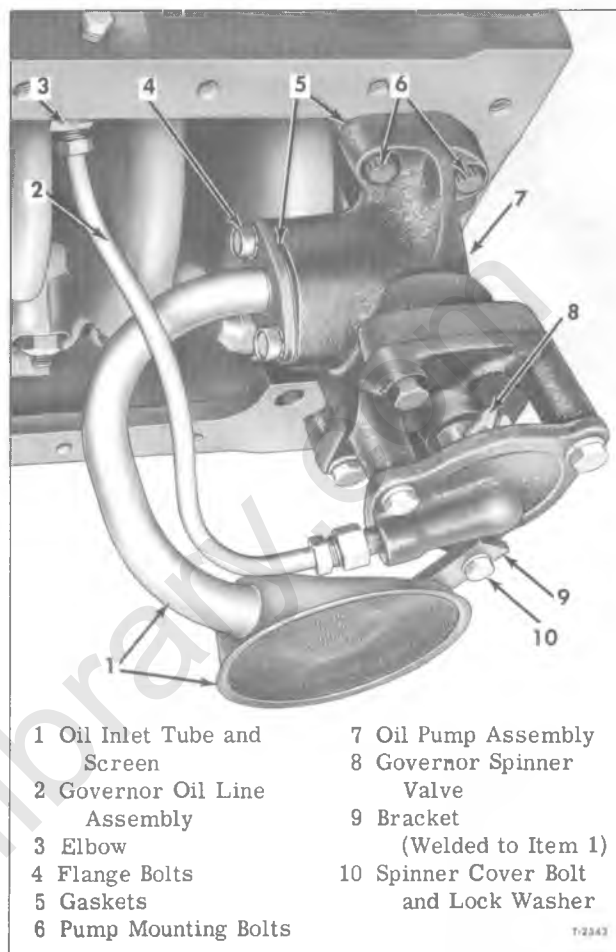

Figure 40—Oil Pump Installation on Engine with Hydraulic Type Governor
2. On engines (351M) with hydraulic type governor (fig. 40), remove governor oil line assembly.
3. On engines (351M) with hydraulic type governor, position oil line (2, fig. 40) at fittings on cylinder block and oil pump and start oil line nuts.